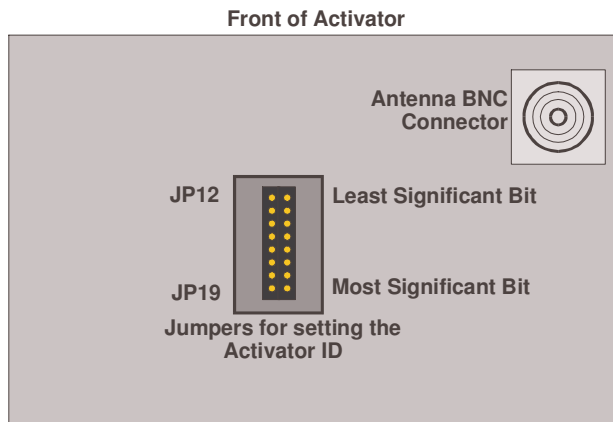

Figure 7 Activator ID Jumpers
- 3: Using needle-nose pliers, place jumpers on headers JP12 through JP19 (Figure 7) to represent the ID number in binary. A jumper on a header represents a one and absence of a jumper is a zero. JP12 is the least significant bit and JP19 is the most significant bit.